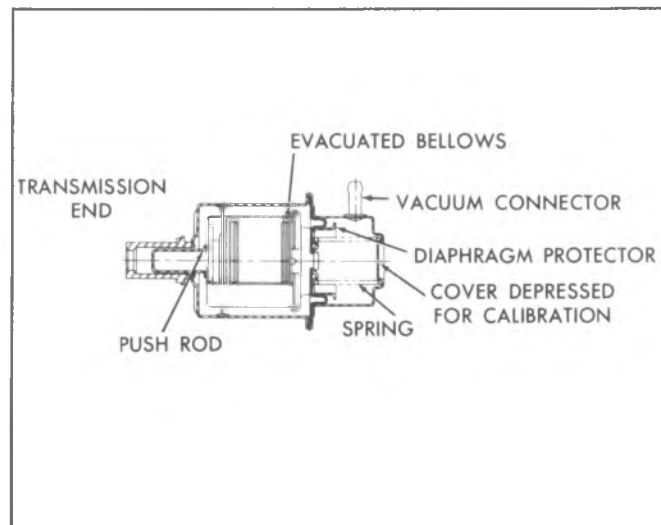

Fig. 7A-9C-Vacuum Modulator
c. Holding the modulators in a horizontal position, bring them together under pressure until either modulator sleeve end just touches the line in the center of the gauge (Fig. 7A-13C). The gap between the opposite modulator sleeve end and the gauge line should then be $1/16''$ or less. If the distance is greater than this amount, the modulator in question should be replaced.